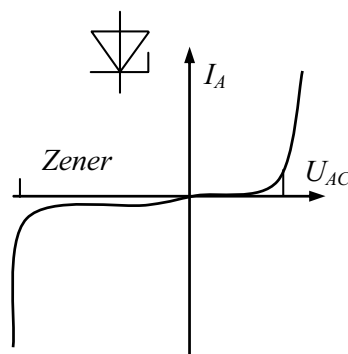

Fig. 1.12
**Zener diode.** A *Zener diode* sometimes called *breakdown diode* or *stabilitrone*, is designed to operate in the reverse breakdown, or Zener, region, beyond the peak inverse voltage rating of normal diodes. This reverse breakdown voltage is called the Zener, or *reference voltage*, which can range between  $-2,4\text{ V}$  and  $-200\text{ V}$  (Fig. 1.12). The Zener effect causes a “soft” *breakdown* whereas the avalanche effect causes a sharper turnover. Both effects are used in the Zener diode. The manufacturer predetermines the Zener and avalanche voltages.